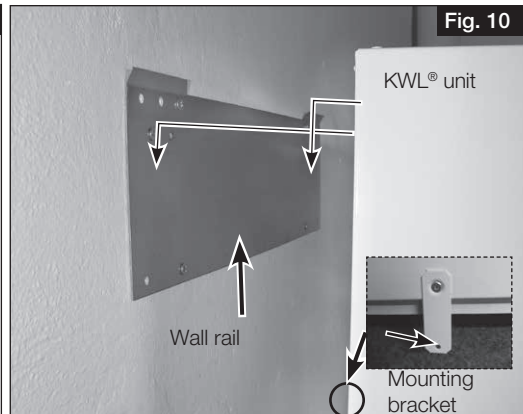

Fig. 10
3. Hang the unit mounting bracket on the wall rail and additionally fix it to the wall with the lower mounting bracket (see Fig. 10).